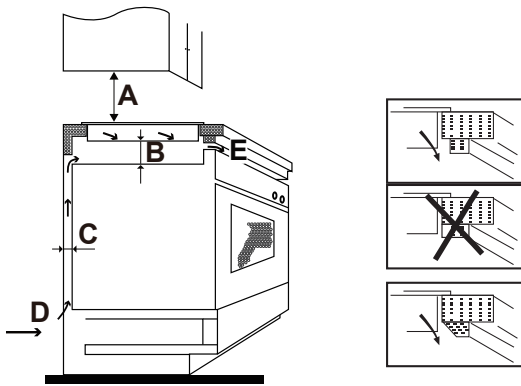

Fig.2
- The base of the cooktop must have direct unrestricted ventilation to the room where the cooktop is installed. **Follow the requirement of Fig. 2.**